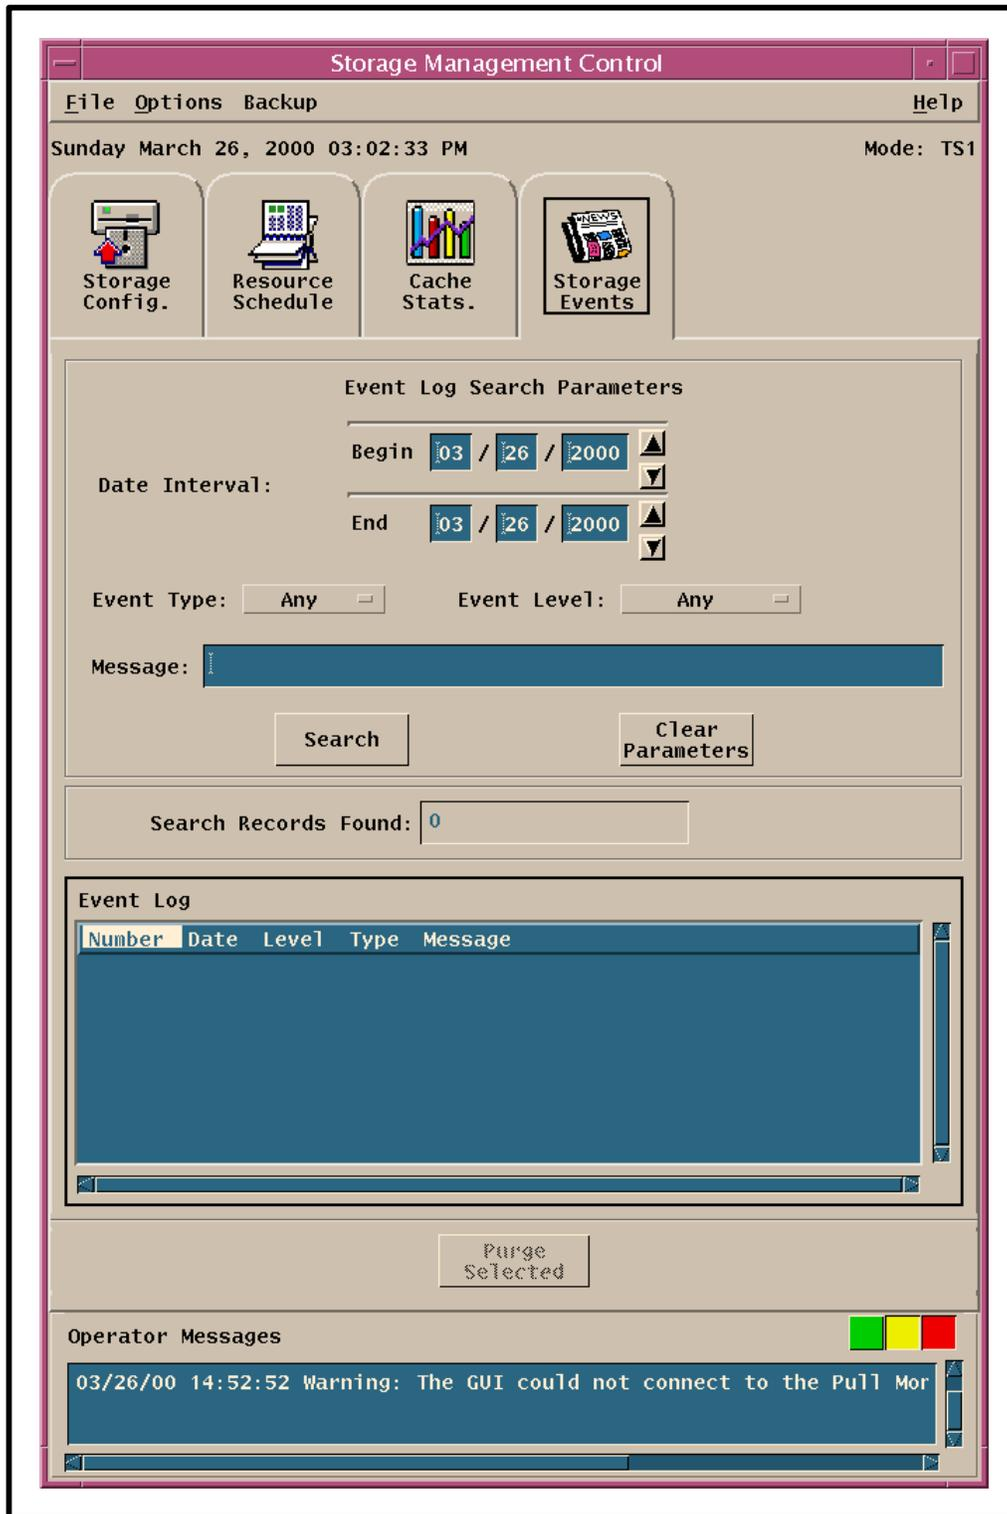

Figure 24. Storage Events Screen
- The **Storage Events** screen (Figure 24) is displayed.
- The search results are displayed in the **Event Log** window of the **Storage Management Control GUI Storage Events** tab (Figure 24).